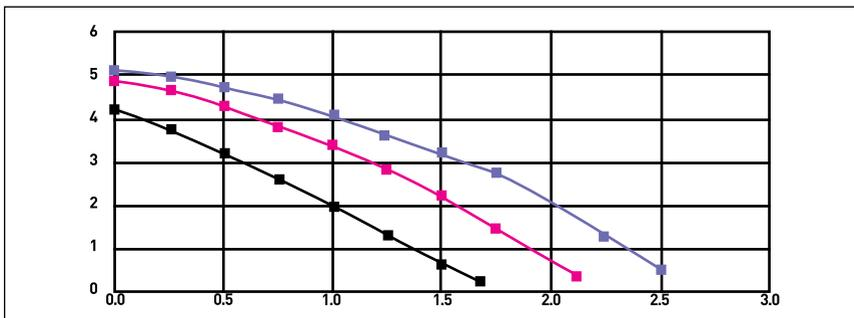

Figure 1.5.4
- Characteristic of the pump used in the device is presented in Figure 1.5.4.